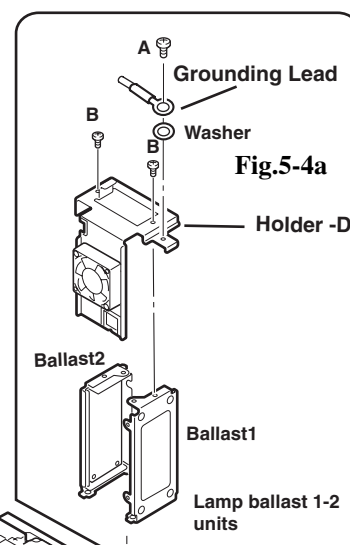

Fig.5-4a
2. Remove screw-A, remove washer and remove the grounding lead from the Holder. (Lamp ballast 1-2 units. See Fig.5-4a)